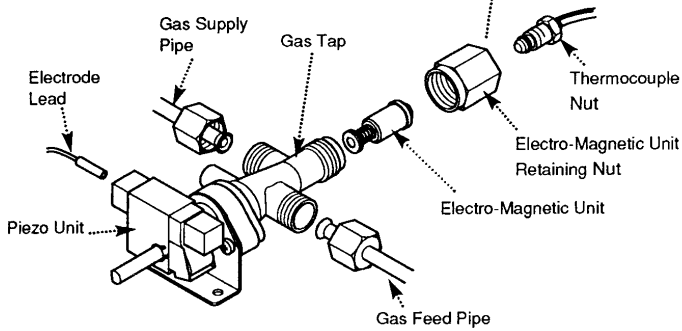

Fig. 59
10.9 Gas Tap and Piezo Unit (Fig. 59)
10.10 Electro-Magnetic Unit (Fig. 59)